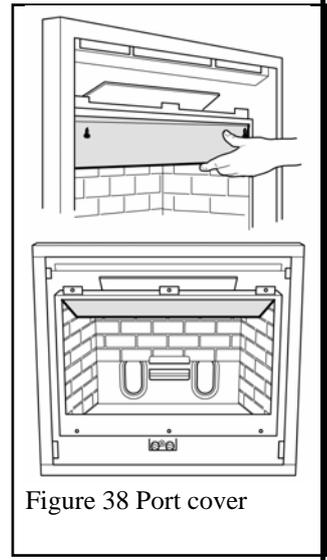

Figure 38 Port cover
3. Remove two screws from under the top front of the firebox. Using these screws fit the port cover. See figure 38.